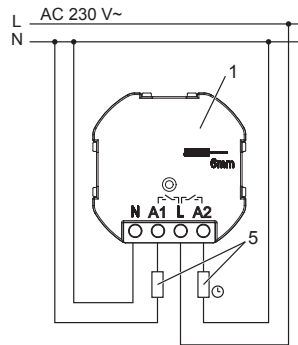

Figure 3: Connection
- Connect load according to wiring diagram (fig. 3 or 4).
- Install insert (1) in wall box, terminals must be at the bottom.
- Attach the frame (2) and the cover (3).